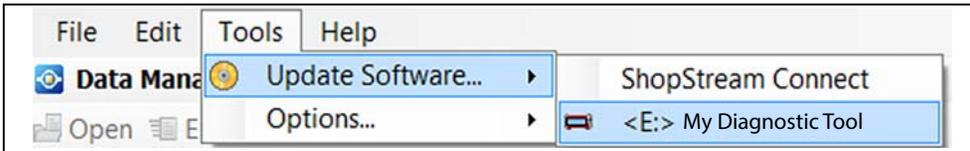

Figure 7-12
1. Select **Tools > Update Software >** (diagnostic tool type - e.g. ETHOS Edge, MODIS Edge, SOLUS Edge, etc.) from the Menu bar (Figure 7-12).